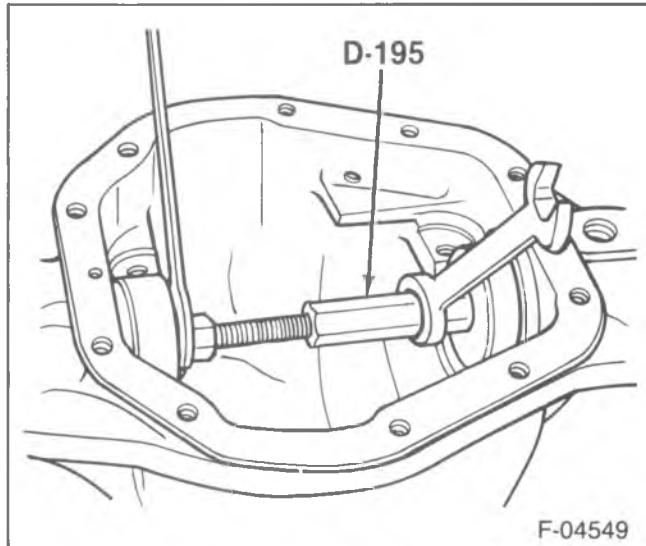
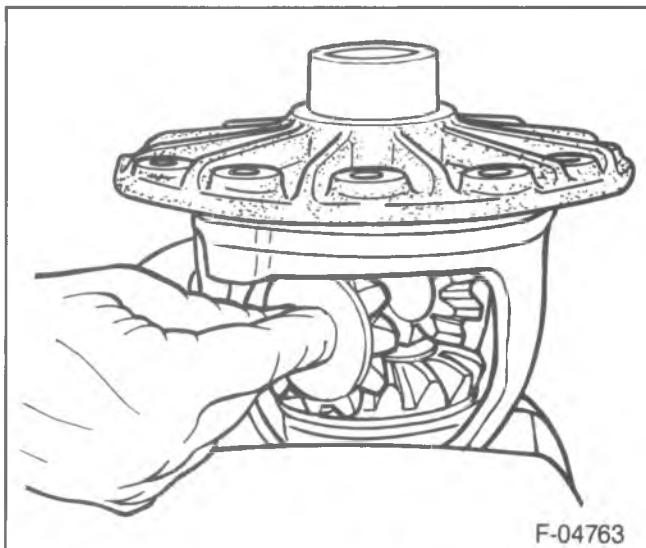

Figure 41—Installing the Axle Shaft Seals
Figure 42—Installing the Pinion Gears
- 1. Axle shaft seals, using D-195 (figure 41).
- 2. New side gear thrust washer (27) to the side gears (25).
- 3. Side gears (25) to the differential case.
- Place the side gears in place on the same side as removed (figure 42).
- 4. Pinion gears (24) to the differential without the thrust washers (26).